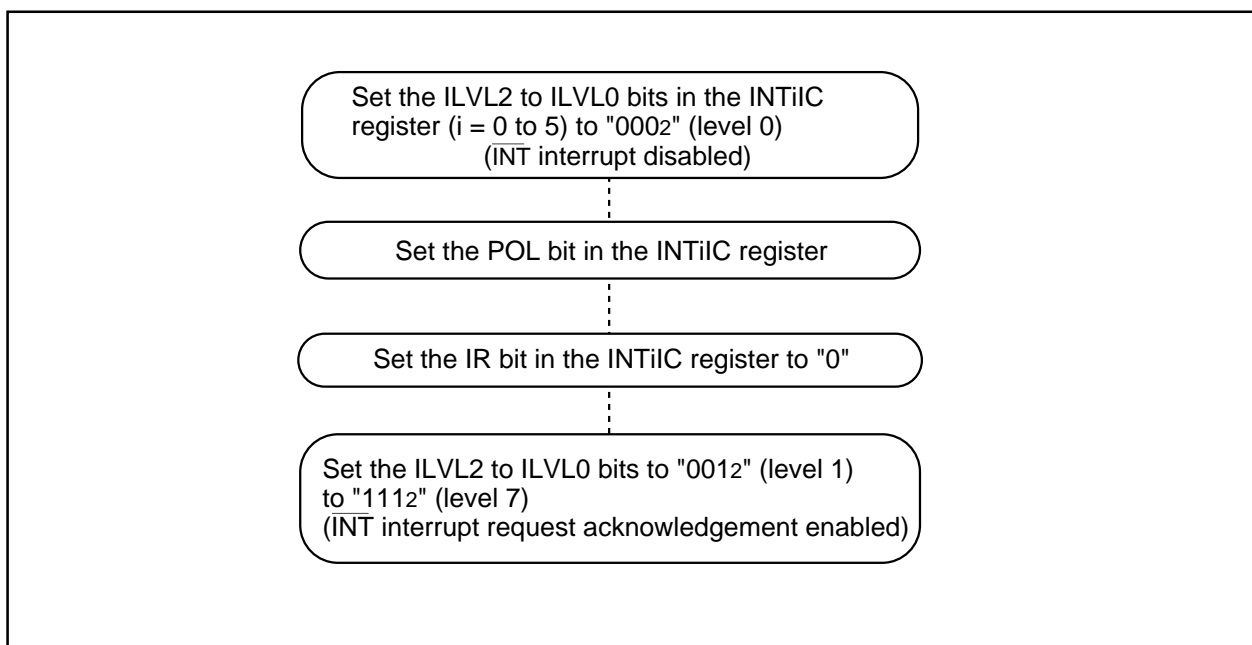

Figure 27.1 Switching Procedure for $\overline{\text{INT}}$ Interrupt
- The IR bit may change to "1" (interrupt requested) when switching the polarity of the $\overline{\text{INT0}}$ to $\overline{\text{INT5}}$ pins. Set the IR bit to "0" (no interrupt requested) after selecting the polarity. Figure 27.1 shows an example of the switching procedure for the $\overline{\text{INT}}$ interrupt.